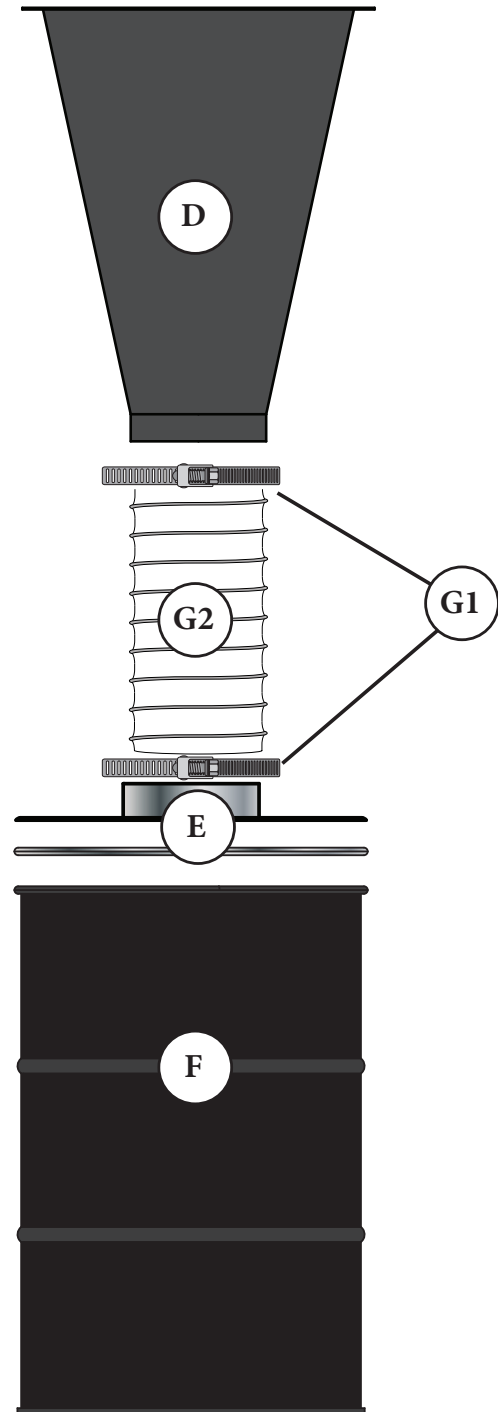

FIG. 16
Attach Hose (G2) to the Cone's (D) discharge, and secure it in place with the Clamp Band (G1). [FIG. 16]